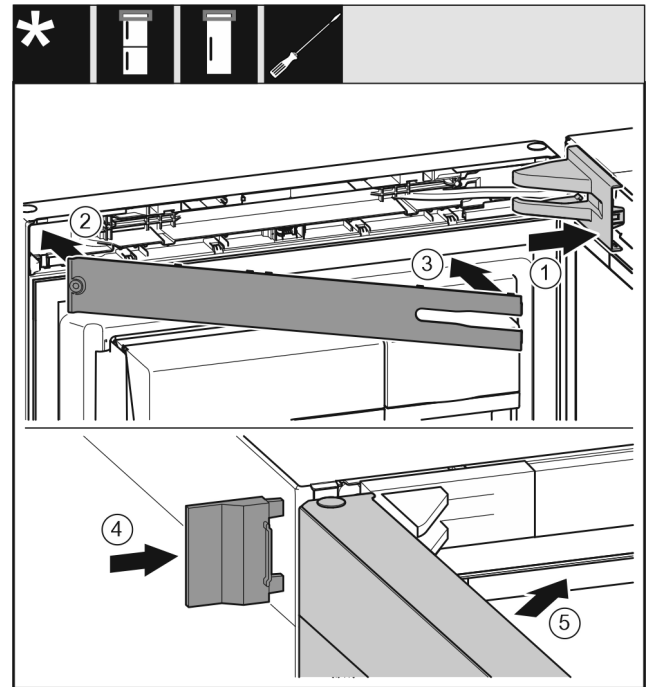

Fig. 48
- ▶ Position the swap bearing block cover Fig. 48 (1) and snap it in. You may need to push it carefully apart.
- ▶ Attach the cover Fig. 48 (2).
- ▶ Cover Fig. 48 (3)
- ▶ Slide on the outer cover Fig. 48 (4).
- ▶ Close the top door Fig. 48 (5).